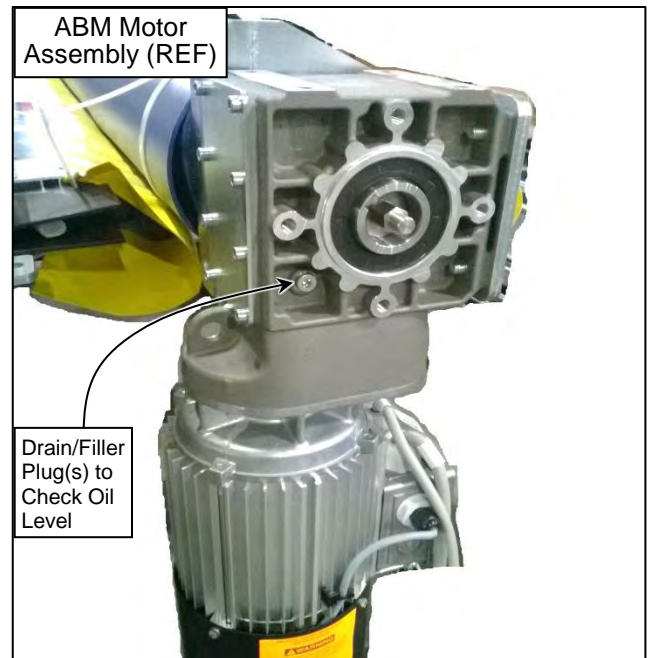

**Figure 26**
- Fill the gearbox by removing the breather at the top of the gearbox and add oil through exposed hole. Add oil until it starts draining from the check plug hole. Replace the O-ring on the refill plug as needed to maintain a tight seal. (See Figure 26)